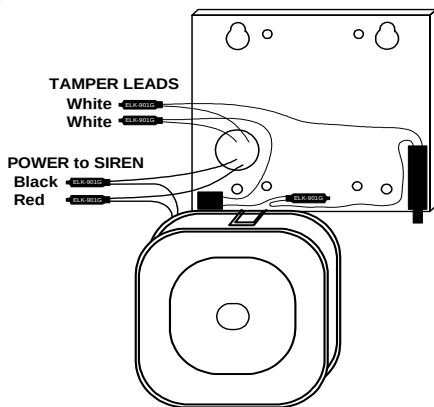

Figure 2
3. Temporarily hang the Siren/speaker on the backplate by aligning the slotted insert on the top edge of the Siren with the 1/2" recessed tab on the bottom edge of the backplate. Press Siren onto tab. (See Figure 2)